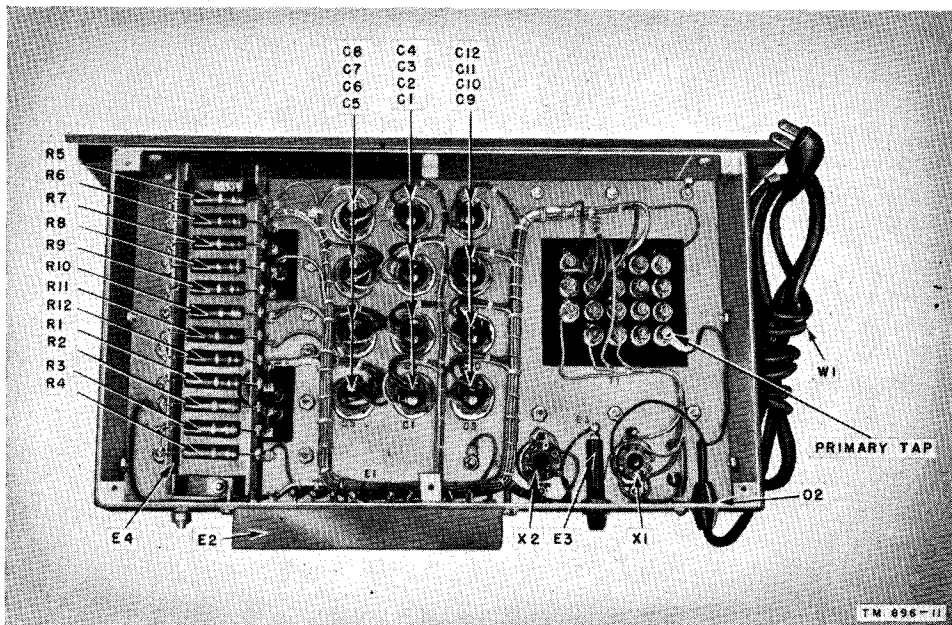

Figure 44.1 (Added.) Power Supply Unit RA-74-D, with serial numbers 1 through 390, Order No. 12618-Phila-47, chassis, bottom view.
e. A-C INPUT. Before plugging the * * * in figure 12. **The primary tap of Power Supply Unit RA-74-D is indicated in figures 44.1 and 44.2.** Connect the primary * * * bottom cover plate.